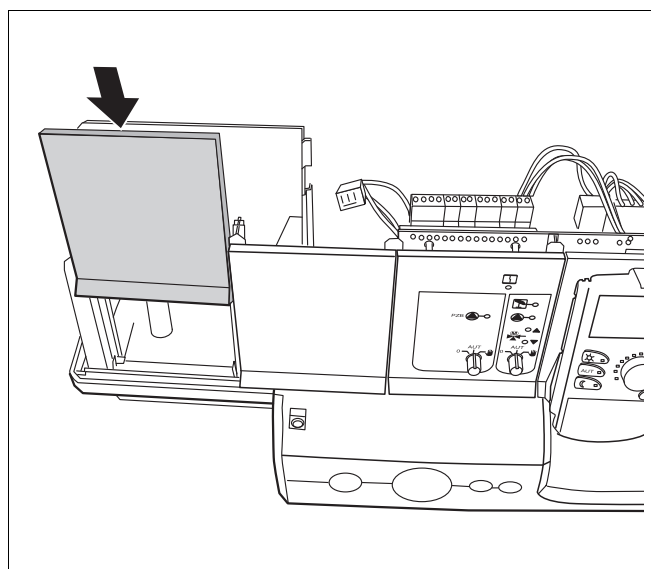

Fig. 11 Inserting a blanking plate
- Close the aperture created with a blanking plate if you are not inserting a new module (→ Fig. 11).